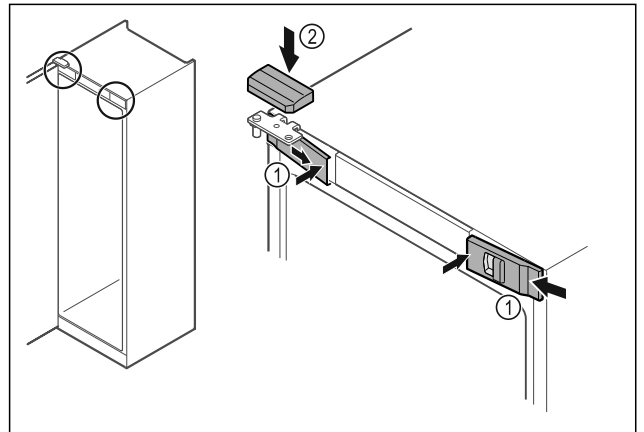

Fig. 47
- ▶ Hook in the front covers Fig. 47 (1) on the side and snap them into place on the inside.
- ▶ Snap on the top cover Fig. 47 (2) from above.